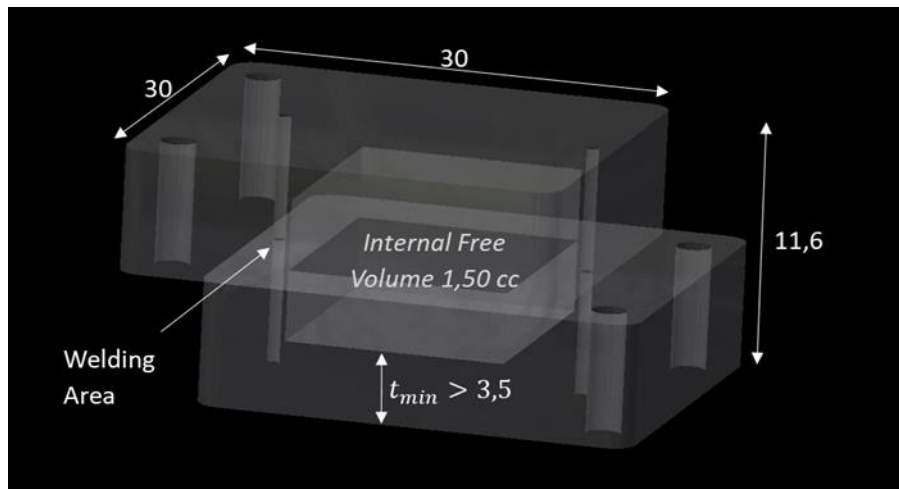

Figure 9. CAD model of the welded package.
13. (Advanced) Think about what could go wrong with the package studied in this exercise, knowing that we would like to flip another identical part on top of the first one and laser-weld them together to form a full package, as shown in **Figure 9**. Think about the stress concentrations and their implications. Once you have identified at least two potential issues, propose some ideas to solve them.